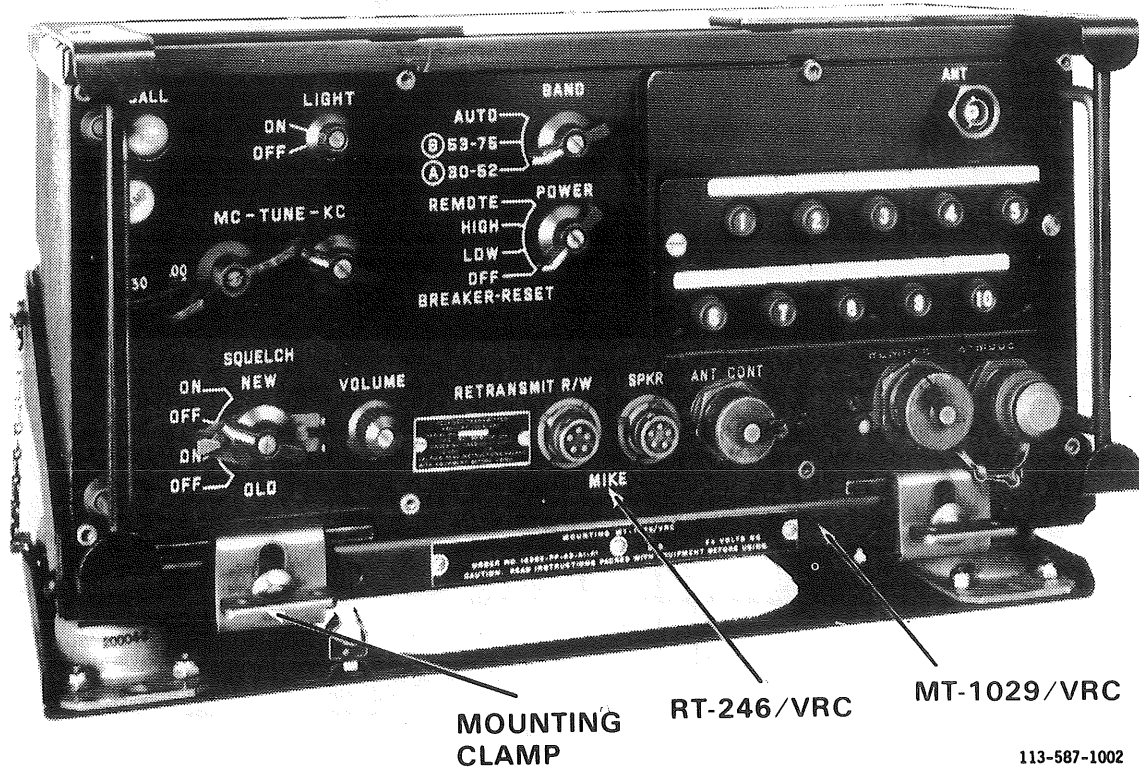

Figure 3. Receiver-Transmitter, Radio RT-246/VRC
5. Insert receiver-transmitter and receiver into mounts. (Refer to figs 3 and 4, and TM 11-5820-401-12, chap 2, sec II, para 2-5b (1), 2-6a(1), pp 2-3 and 2-4.)